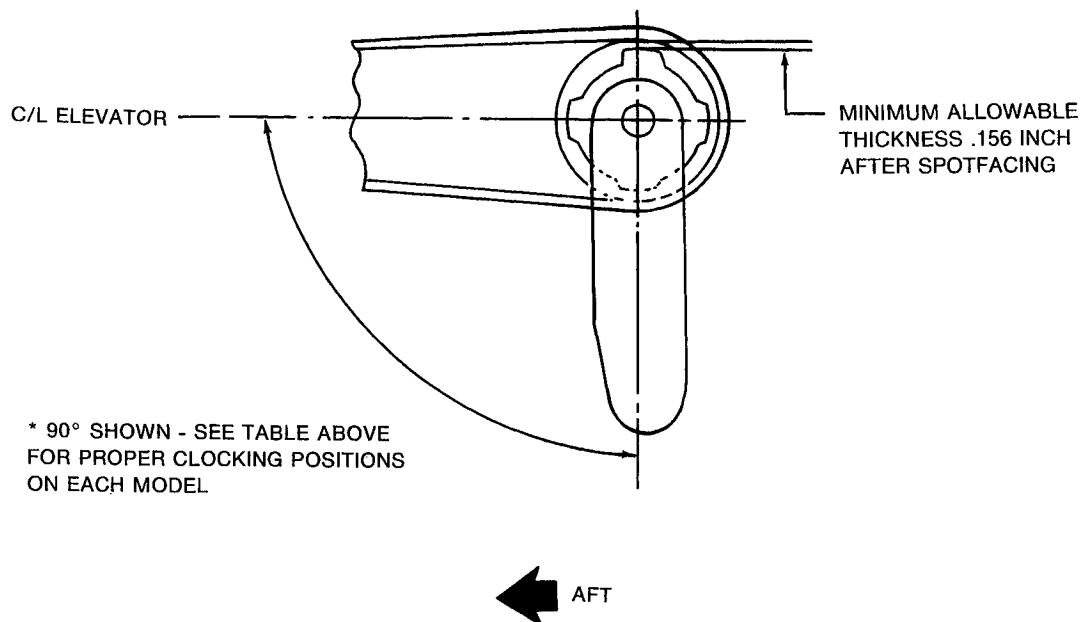

Figure 2
- b. Install a new elevator control fitting on the elevator in the correct position. Refer to Figure 2 for correct position.
g. Back spot face the four holes (on the inside of the fitting) until a flat surface is obtained. The minimum allowable thickness of the spotfaced area is .156 inch. Refer to Figure 2.
i. Use new hardware for the new fitting installation. See Figure 2.